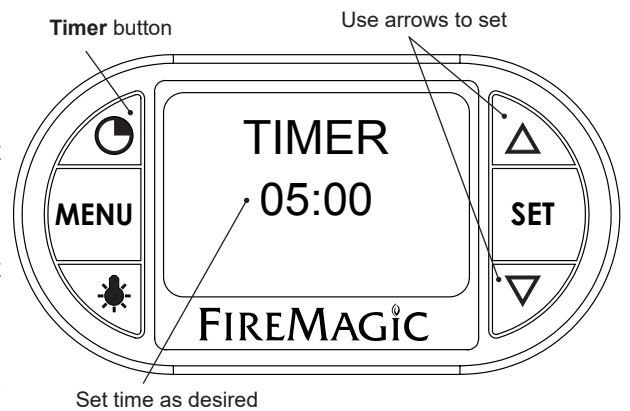

Fig. 35-4 Timer screen
1. Press the timer button. Use the arrows to set the desired amount of time (see Fig. 35-4.)